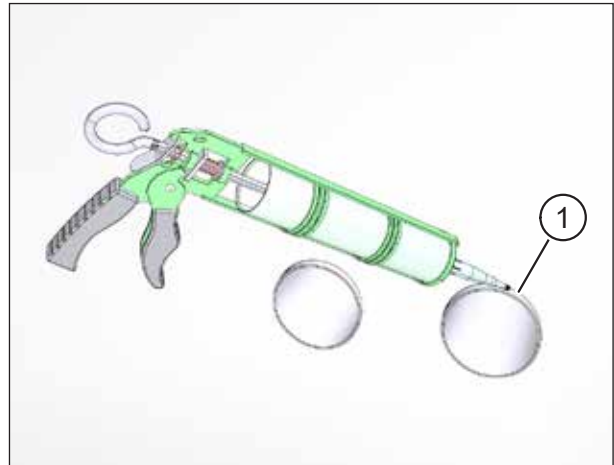

Fig. 43: Sealing ventilation pipes on external wall
- ▶ Chamfer both pipe breakthrough edges (item 1 in Fig. 43) to roughly 5 x 45° to create enough space for the sealing joints with permanently elastic sealant.